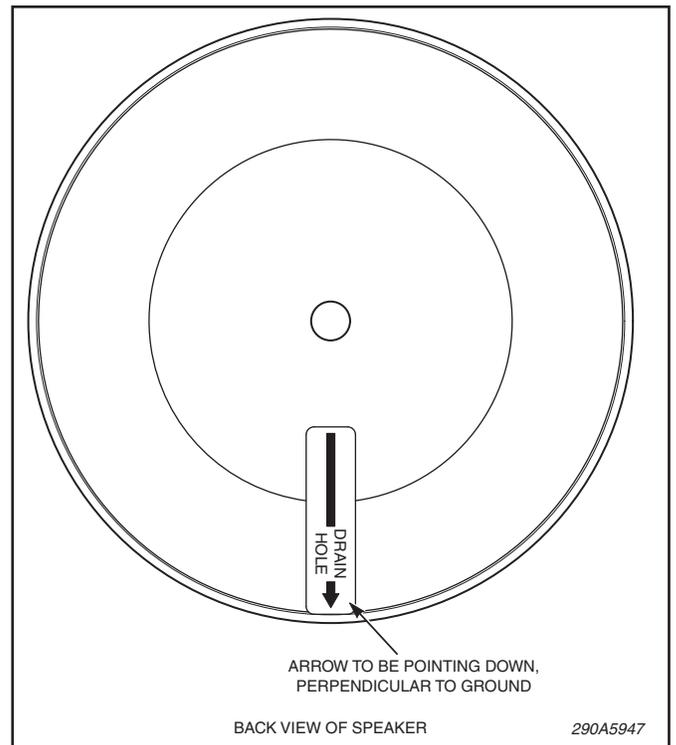

Figure 3.
5. See figure 3. Make sure the arrow on the neo-driver assembly arrow is pointing down perpendicular to the ground to ensure the drain hole is at the bottom of the assembly. Slide the neo-driver assembly with bolts, lock washers and flat washers into the slots of the “C”-shaped and “Z”-shaped brackets that are secured to the bumper bracket.